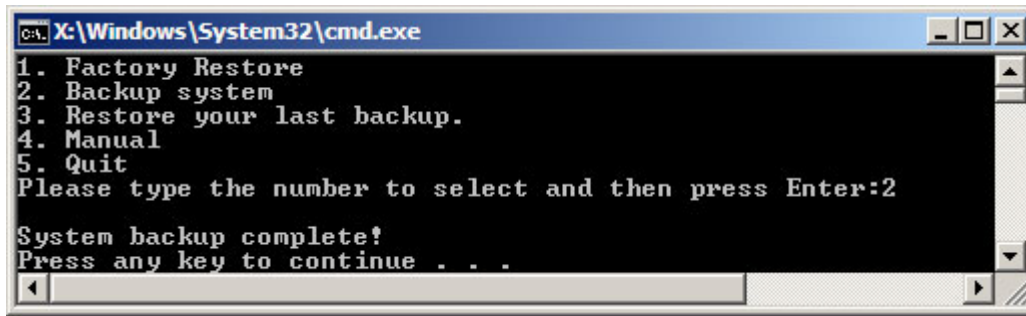

Figure B-37: System Backup Complete Window
**Step 3:** The screen shown in **Figure B-37** appears when system backup is complete. Press any key to reboot the system.